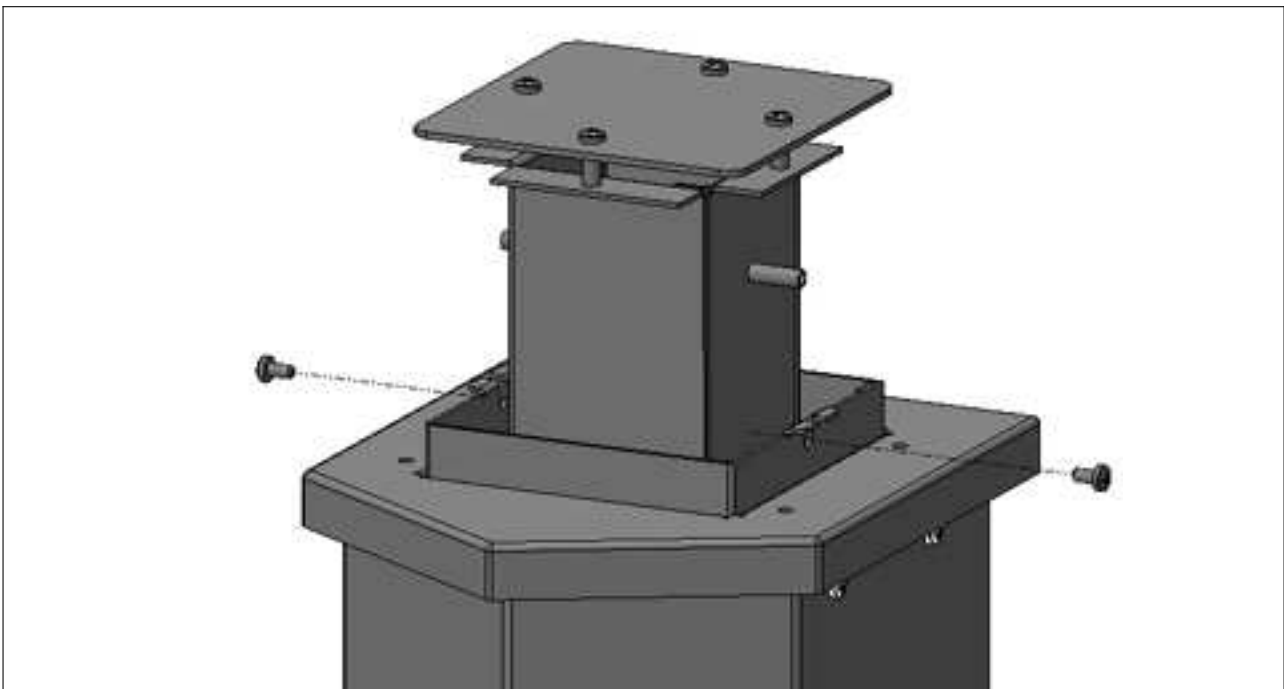

Figure 6.4
- Remove the two screws holding the Inner Chimney to the Top Piece. See Figure 6.4.